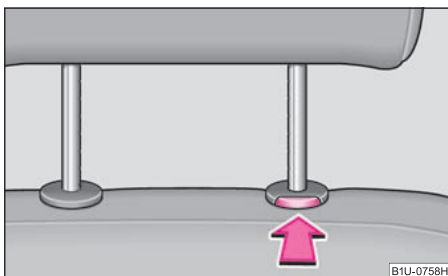

Fig. 63 Removing a head restraint
- Press the locking button in the direction of arrow ⇒ fig. 63 and pull the head restraint out.